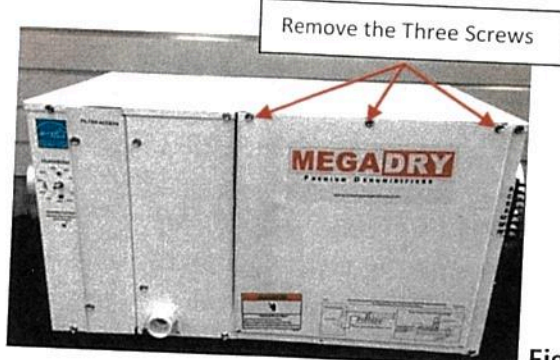

Figure 1
Step 1 – Open the side panel by removing the three screws at the top side of the unit with a 5/16" socket (Figure 1).